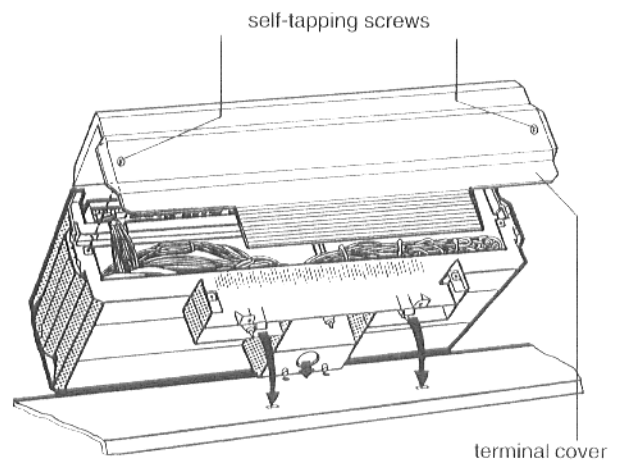

Fig. 10
- Unscrew both self-tapping screws from the terminal cover and remove the hood (Fig. 10).
- Position the control panel in such a way that the push-in hooks enter the oval drill holes. Pull the control panel forward and then tilt to the rear until both elastic hooks click on the right and left (arrows - Fig. 10).